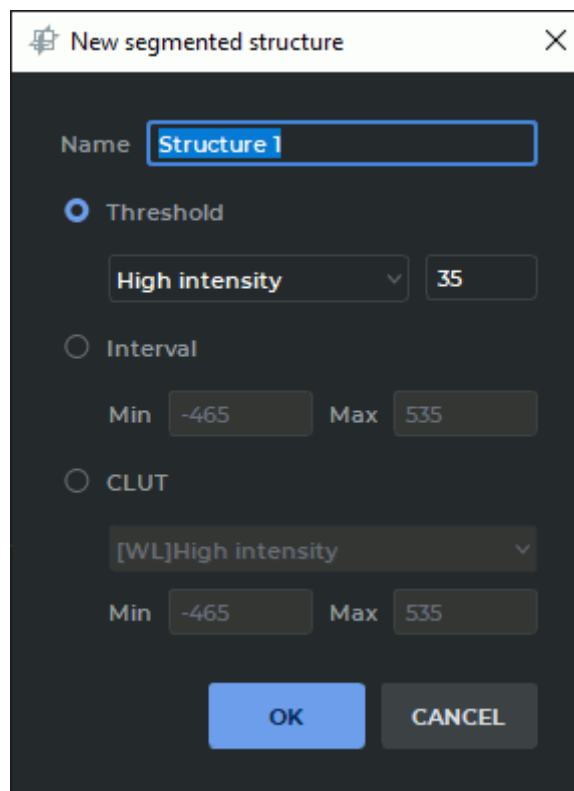

Figure 6.4: Set mask for a new structure
1. Click the **Add a new structure**  button. The dialog shown in Fig. 6.4 appears.